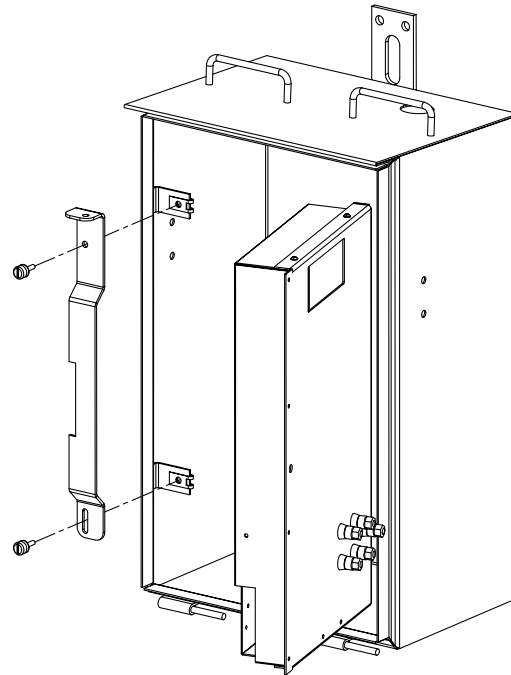

Figure 1. Control box bracket removal
2. For control boxes with an existing CL-6B regulator control, use a screwdriver to remove the latching bracket from the control box mounting tabs. Refer to **Figure 1**.